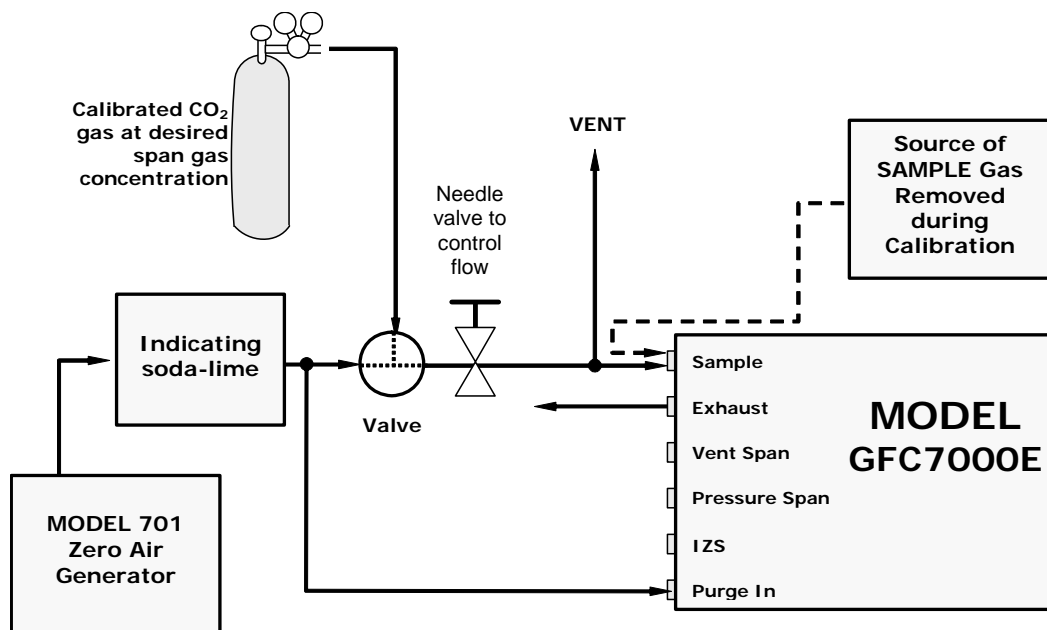

Figure 3-3: Pneumatic Connections—Basic Configuration—Using Bottled Span Gas
Figures 3-3 and 3-4 illustrate the most common configurations for gas supply and exhaust lines to the Model GFC7000E Analyzer. Figure 3-13 illustrates the internal gas flow of the instrument in its basic configuration.
2. Attach sources of zero air and span gas (see Figures 3-3 through 3-8 inclusive).